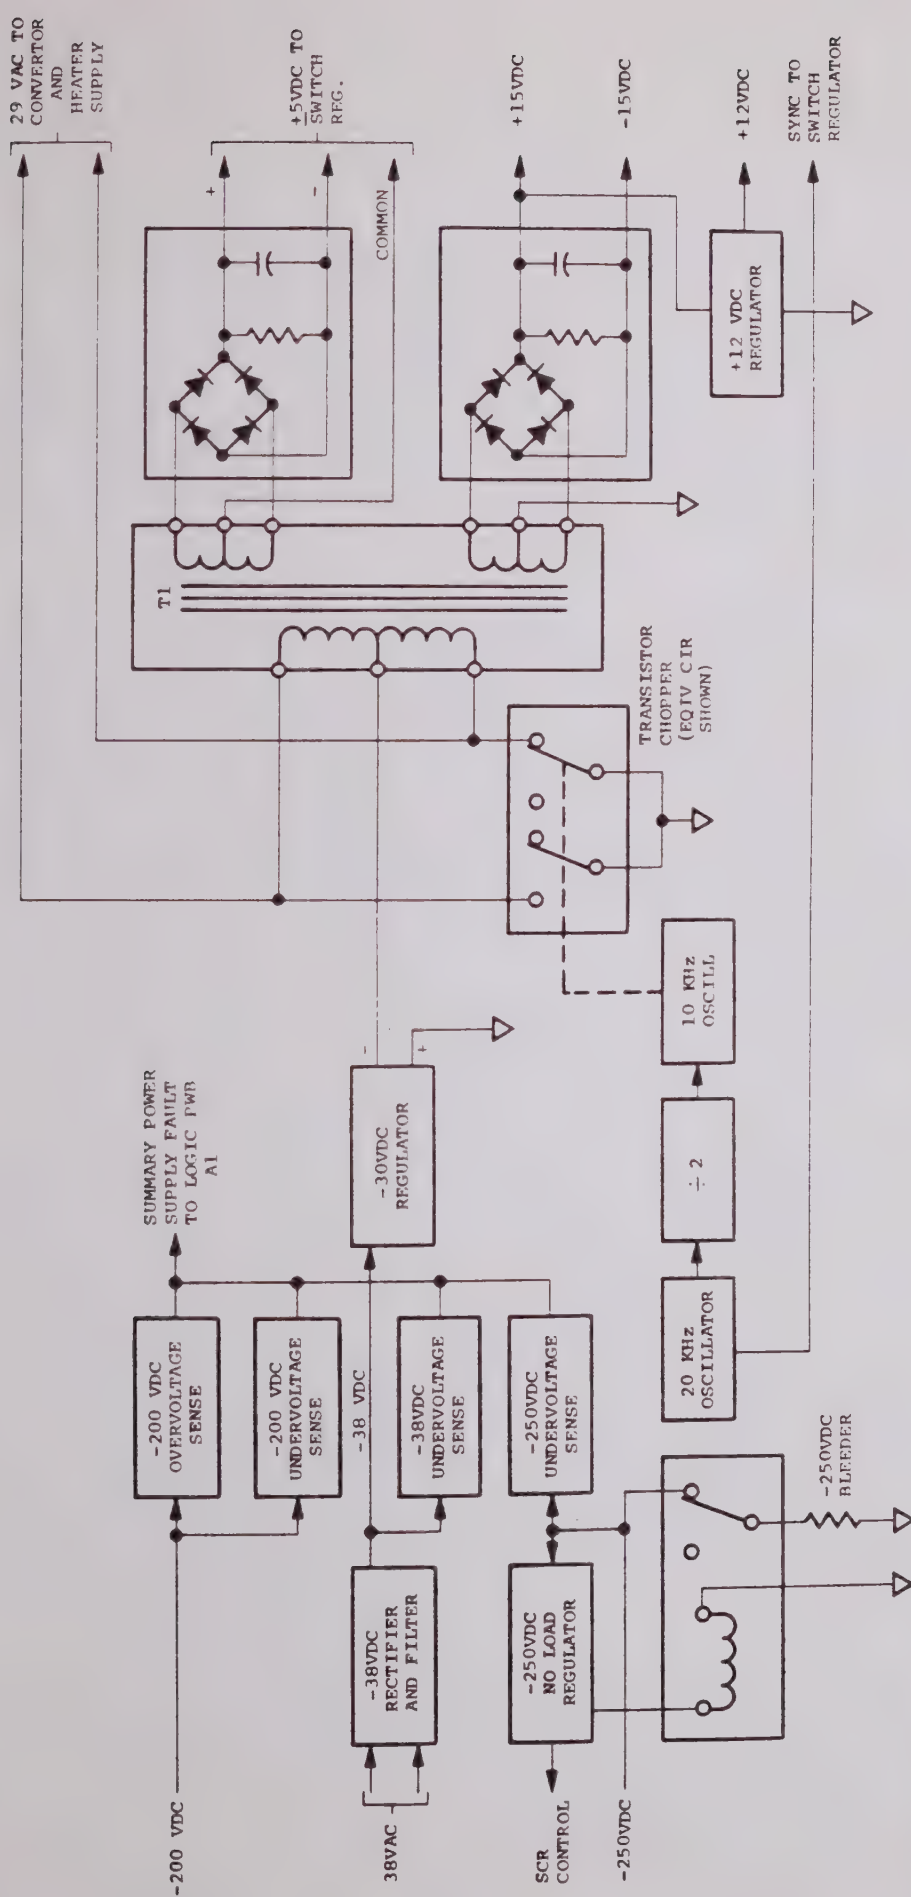

FIGURE 5-2 FUNCTIONAL BLOCK DIAGRAM-OSCILLATOR BIAS PWB A2
As shown in Figure 5-1, the Oscillator/Bias PWB performs a variety of functions. A block diagram of the Oscillator/Bias PWB is shown in Figure 5-2. Circuit details are shown in the A2 schematic. The functions included on the board are:
5.2.3.1 Service Voltage Supplies. A block diagram for the circuits that generate the various service voltages (-30 VDC regulated, -12 VDC regulated, +5 VDC, +15 VDC, +12 VDC and 29 VAC) is shown in Figure 5-2. As noted in Section 5.2.2, the power conditioning circuit transformer is used to step the 115/230 VDC 50 to 60 Hz prime power down to 38 VAC. This is the source voltage for the service voltage supplies. The -38 VAC is converted to -38 VDC by full-wave rectifier CR1 and filtered by C1. The -12 VDC supply voltage required for operation of the 20 kHz square wave sync. generator is taken from zener diode CR2 and capacitor C2 which operate directly from -38 VDC. The -38 VDC is monitored by an undervoltage protection circuit (see Section 5.2.3.5) and fed to a precision series regulator consisting of Q1, Q2, Q3, Q4, Q5,